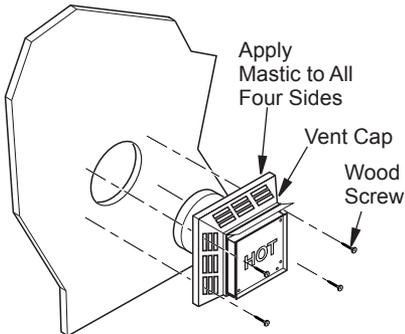

Figure 10 - Installing Horizontal Vent Cap (Noncombustible Exterior)
5. **Noncombustible Exterior Wall:** Position the horizontal vent cap in the center of the 8 1/2" round hole and attach to the exterior wall with four wood screws provided. Before attaching the vent cap to exterior wall, run a bead of non-hardening mastic (pliable sealant) around the outside edges to make a seal between it and the outside wall. *Note:* The four wood screws provided should be replaced with appropriate fasteners for stucco, brick, concrete or other types of sidings (see Figure 10).